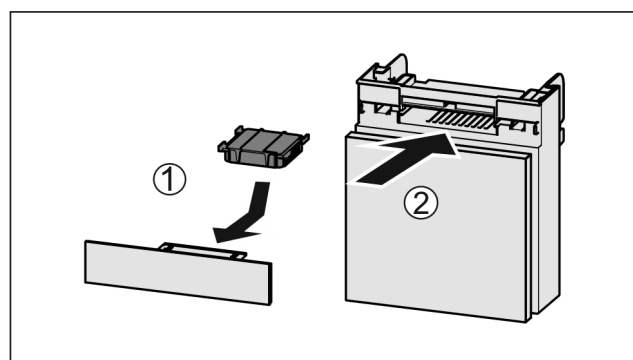

Fig. 152
- Insert the carbon filter as shown in the diagram Fig. 152 (1).
- Push the compartment in Fig. 152 (2).